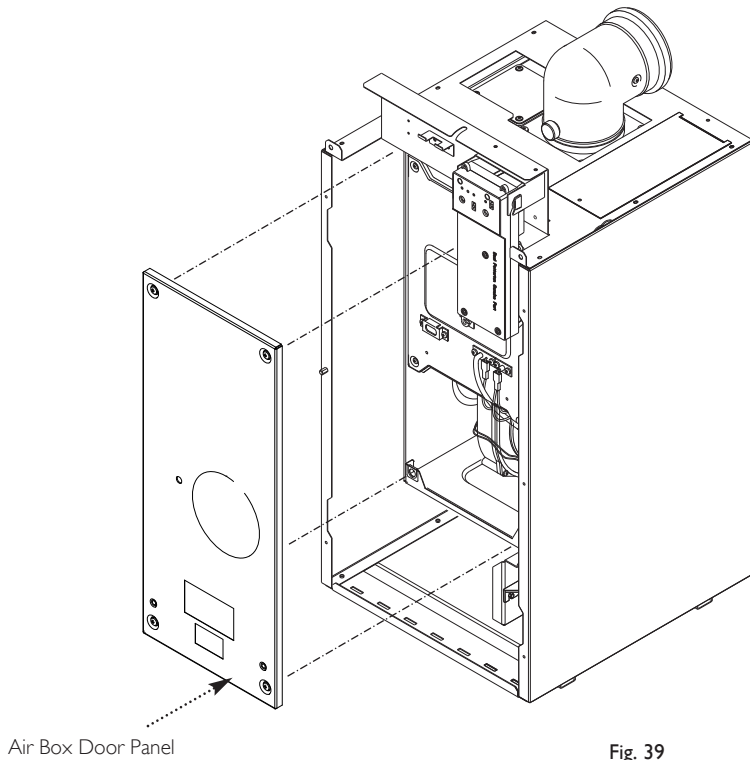

Fig. 39
3. Release the four 1/4 turn screws securing the air box door panel and remove the panel (Fig. 39).